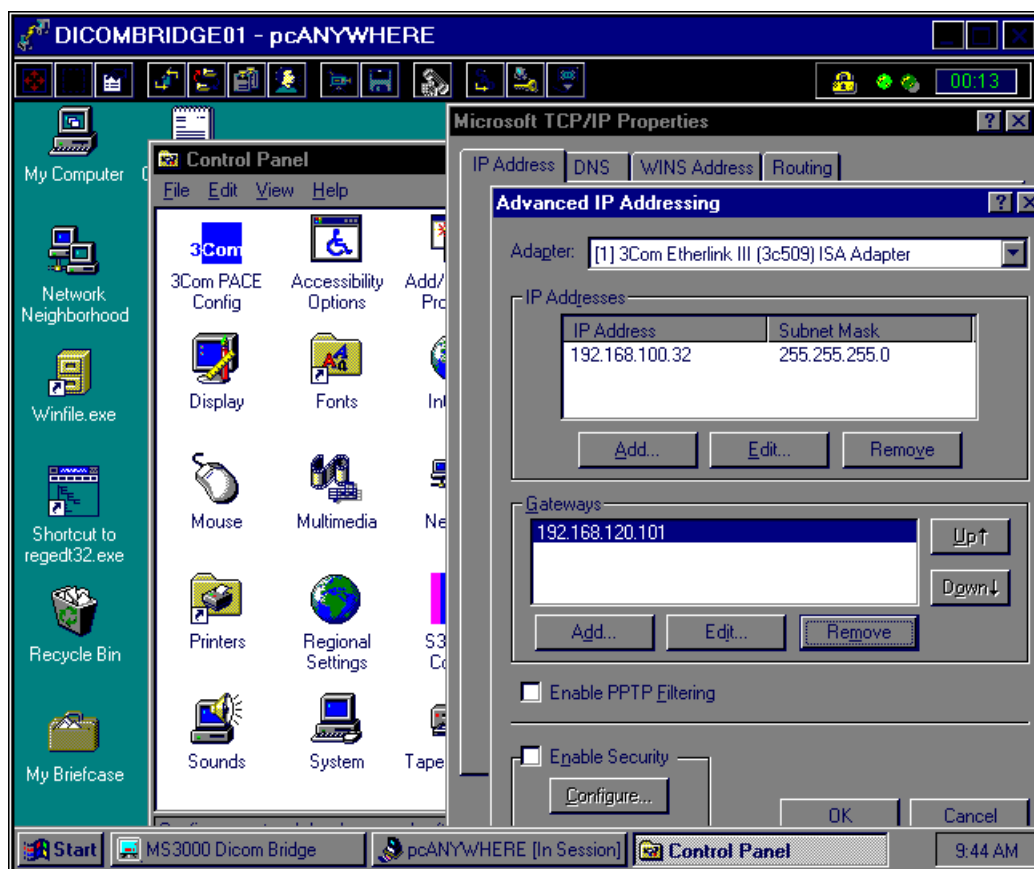

Fig. 4
- (Refer to figure 4 on the next page).